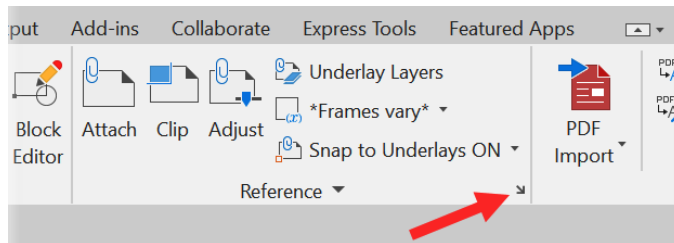

Figure 14.18: The diagonal arrow on the Reference panel on the Insert ribbon tab
1. Go to the AutoCAD ribbon and click on the **Insert** tab. Click on the diagonal arrow button on the title bar of the **Reference** ribbon panel, as shown in *Figure 14.18*.